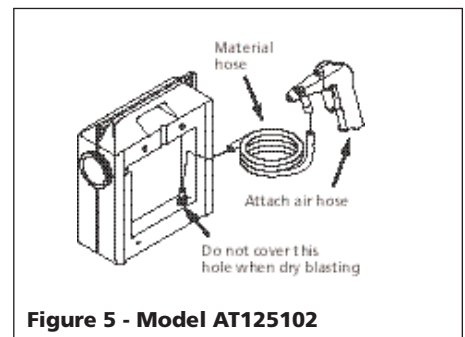

Figure 5 - Model AT125102
1. Attach the material hose to the hose connector. Attach the opposite end of the material hose to the gun (See Figure 5). Never use hose clamps to secure the hose.